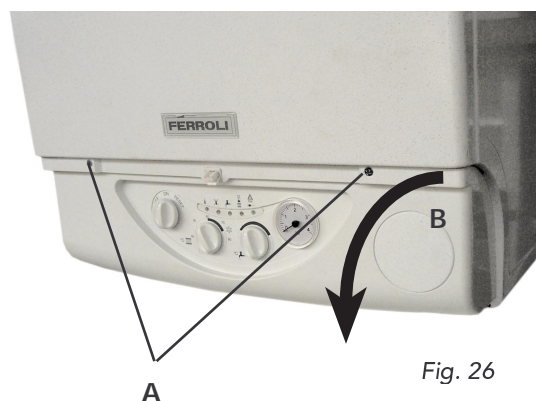

Fig. 26
7.03 To lower the control panel (fig. 26)
- Remove the two fixing screw (fig. 26) "A"
7.04 Gas valve (fig. 26)